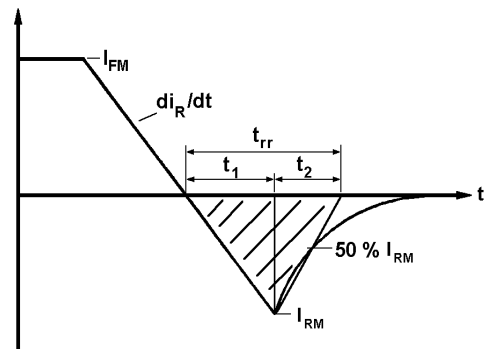

Fig. 1
- (i)  $Q_{ra}$  is based on 50%  $I_{RM}$  chord as shown in Fig. 1